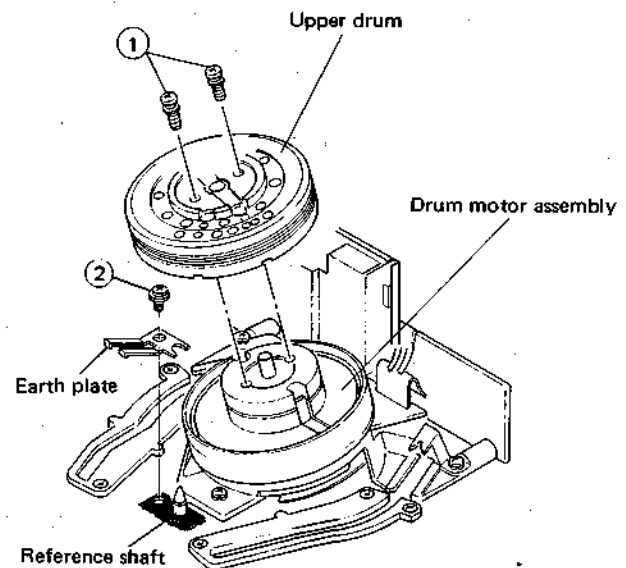

Fig. 2-3-2 Upper drum replacement
- 2) Take out screw ② and remove the earth plate as shown in Fig. 2-3-2.